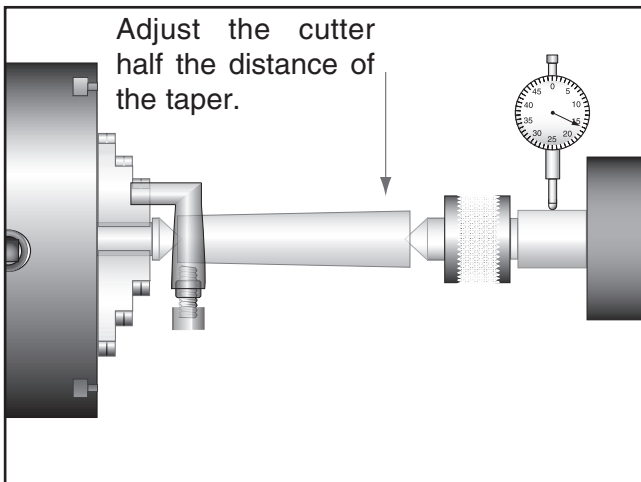
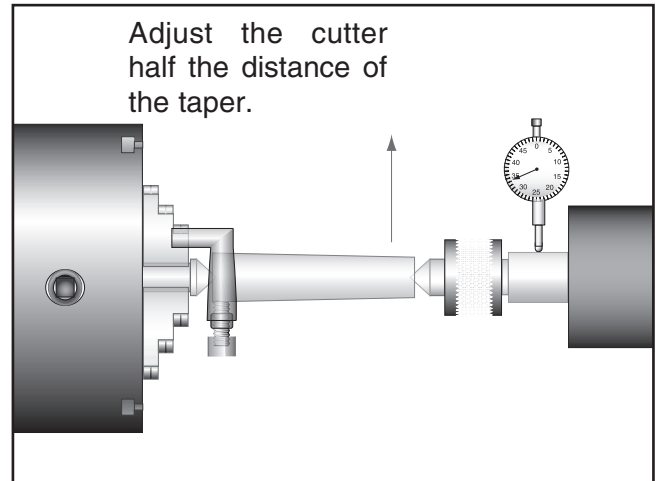

Figure 23. Adjusting for headstock end taper.
Figure 24. Adjusting for tailstock end taper.
6. Measure the workpiece with a micrometer. If the stock is fat at the tailstock end, the tailstock needs to be moved toward the operator half the amount of the taper (**Figure 23**). If the stock is thinner at the tailstock end, the tailstock needs to be moved away from the operator by at least half the amount of the taper (**Figure 24**).